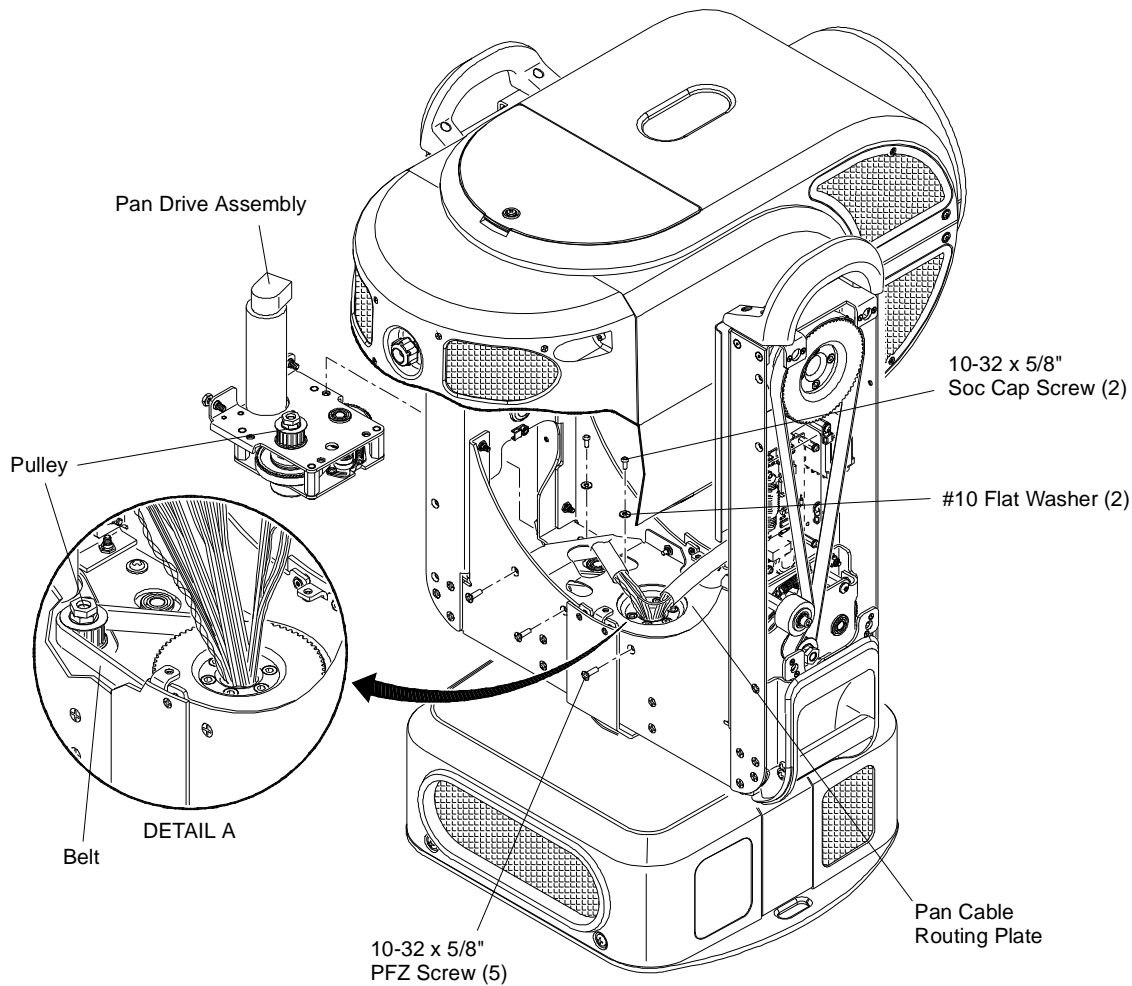

Figure 3-40: Removing Pan Drive Assembly (View 1)
- Step 6. Loosen Pan Cable Routing Plate by removing five 10-32 x 5/8" PFZ screws (**Figure 3-40**).